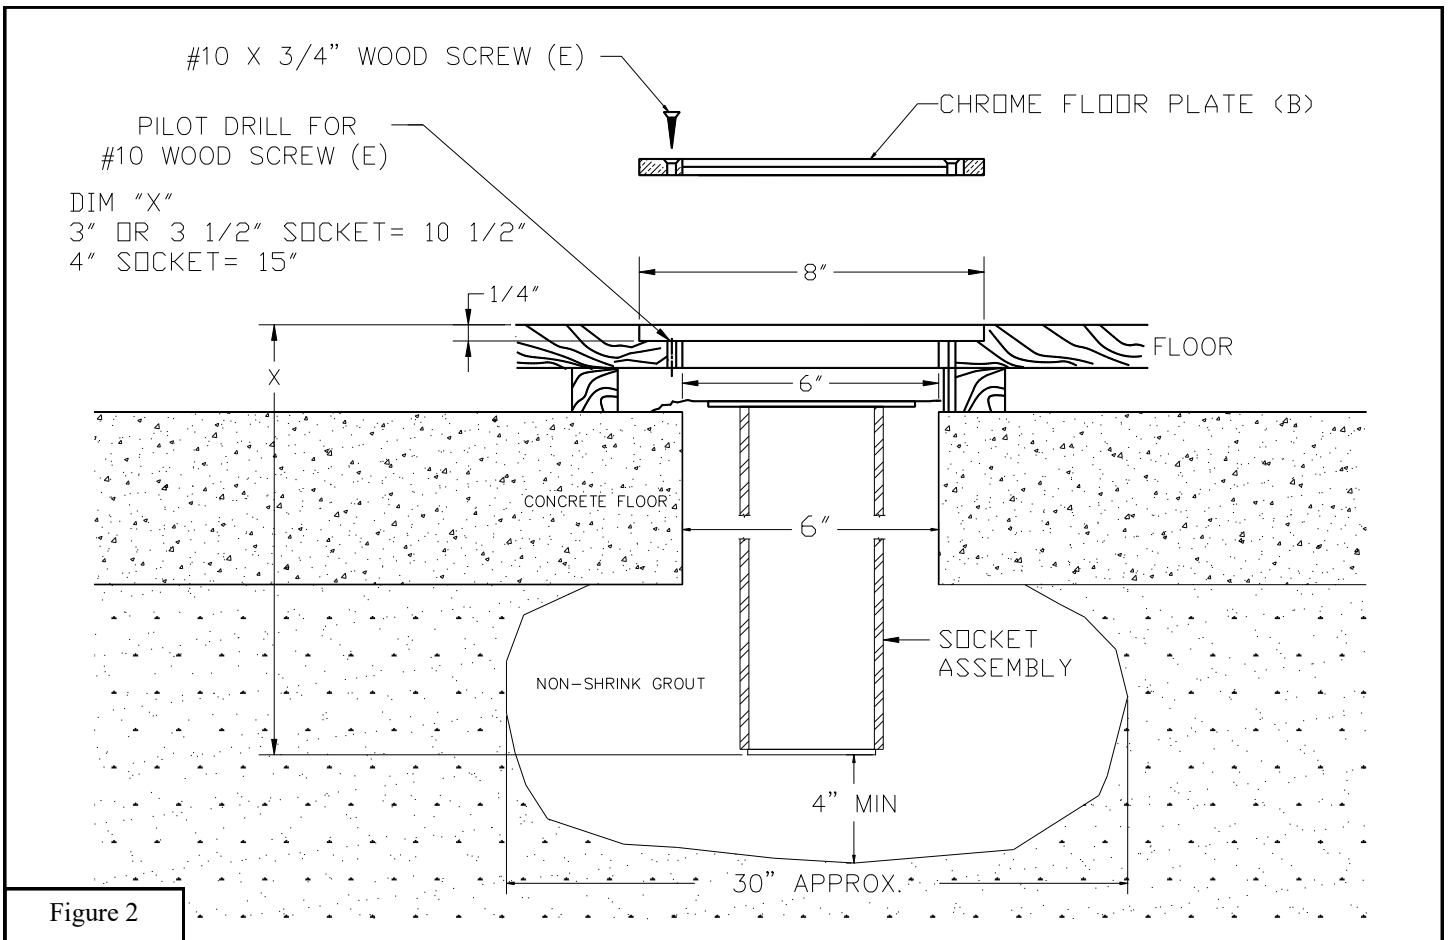

Figure 2
7. If excess gaps exist between the *Chrome Floor Plate (B)* and the "step bore" in the floor fill with an appropriate wood putty as needed when installation is complete.
8. Excavate the soil, sand and gravel below the concrete to an approximate diameter of 30". The depth of the hole should be approximately 20" from the top surface of the wood floor. See Figure 2.